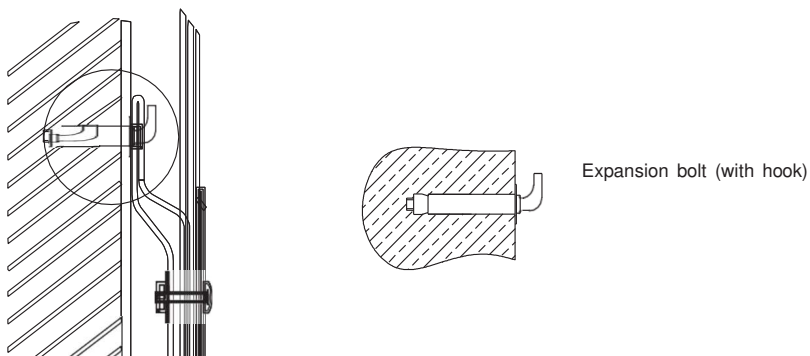

Fig.3
- ① This electrical water heater shall be installed on a solid wall. If the strength of the wall cannot bear the load equal to two times of the total weight of the heater filled fully with water, it is then necessary to install a special support. In case of hollow bricks wall, fill with cement concrete completely.
- ② After selecting a proper location, determine the positions of the two install holes used for expansion bolts with hook. Drill two holes in the wall with the corresponding depth by using a chopping bit with the size matching the expansion bolts attached with the machine, insert the screws, make the hook upwards, tighten the nuts to fix firmly, and then hang the electrical water heater on it (see Fig.3).